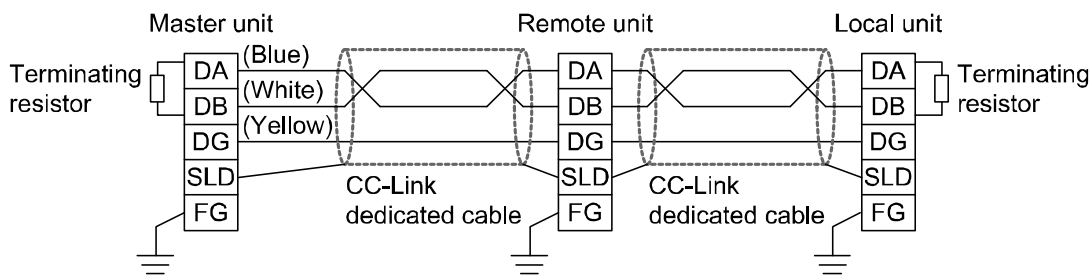

Fig. 2
- (2) Be sure to connect a terminating resistor between “DA” and “DB” at both ends of the CC-Link system. (Refer to Fig. 2)